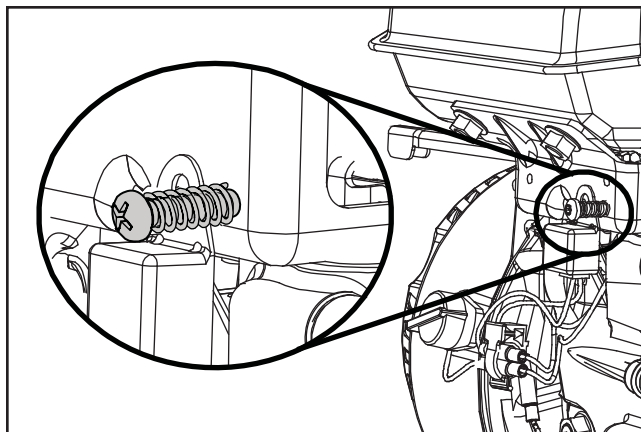

Figure 5-8. High Speed Screw.
3. **High Idle Speed Setting:** Set the high idle speed by turning the high idle speed screw in or out. See Figure 5-8. **Do not** exceed 3750 RPM.